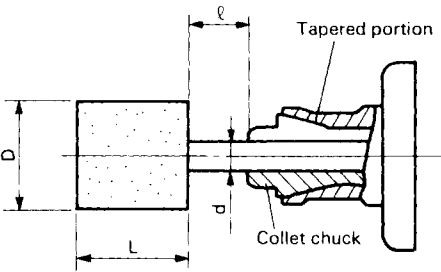

Fig. 2
2. When installing a wheel with shaft, tighten the collet chuck after applying a small quantity of spindle oil (or sewing machine oil) to the tapered portion indicated in Fig. 2.